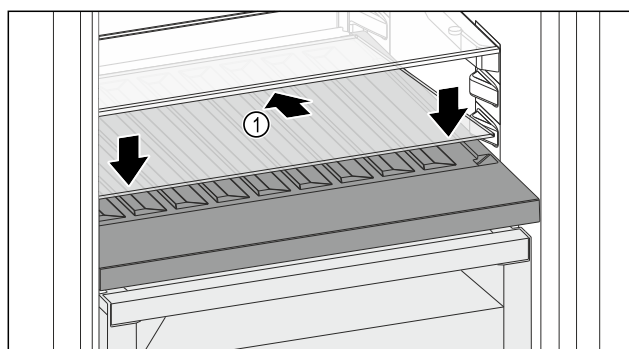

Fig. 98
- Place the glass shelf Fig. 98 (1) at an angle, sloping it downwards and backwards.
- Lower the glass shelf Fig. 98 (1) at the front.